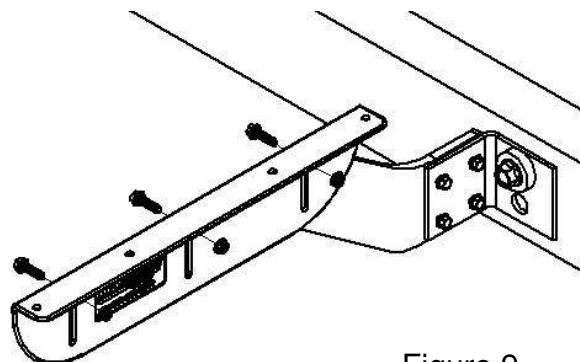

Figure 9
- a. In these cases use the plastic angle (PB5071) to connect the fender to the center bracket assembly (Figure 9).